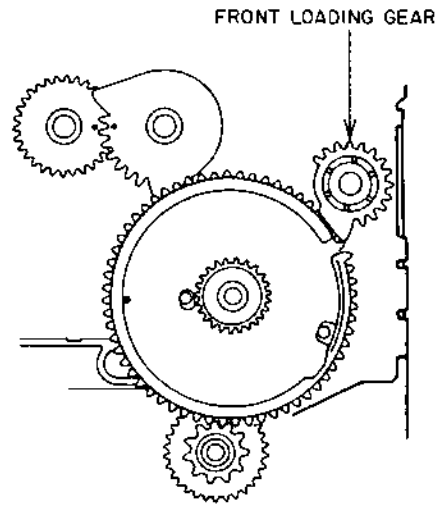
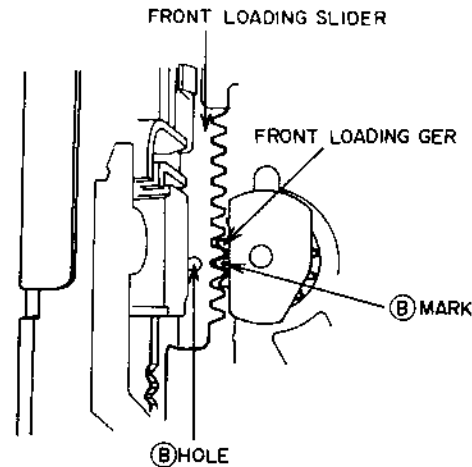

Fig. 4-12
Fig. 4-13
- 3) Attach the FRONT LOADING GEAR as shown in Fig.4-12. At this time, align the Ⓑ mark on the FRONT LOADING GEAR with the Ⓑ hole of the FRONT LOADING SLIDER as shown in Fig.4-13.